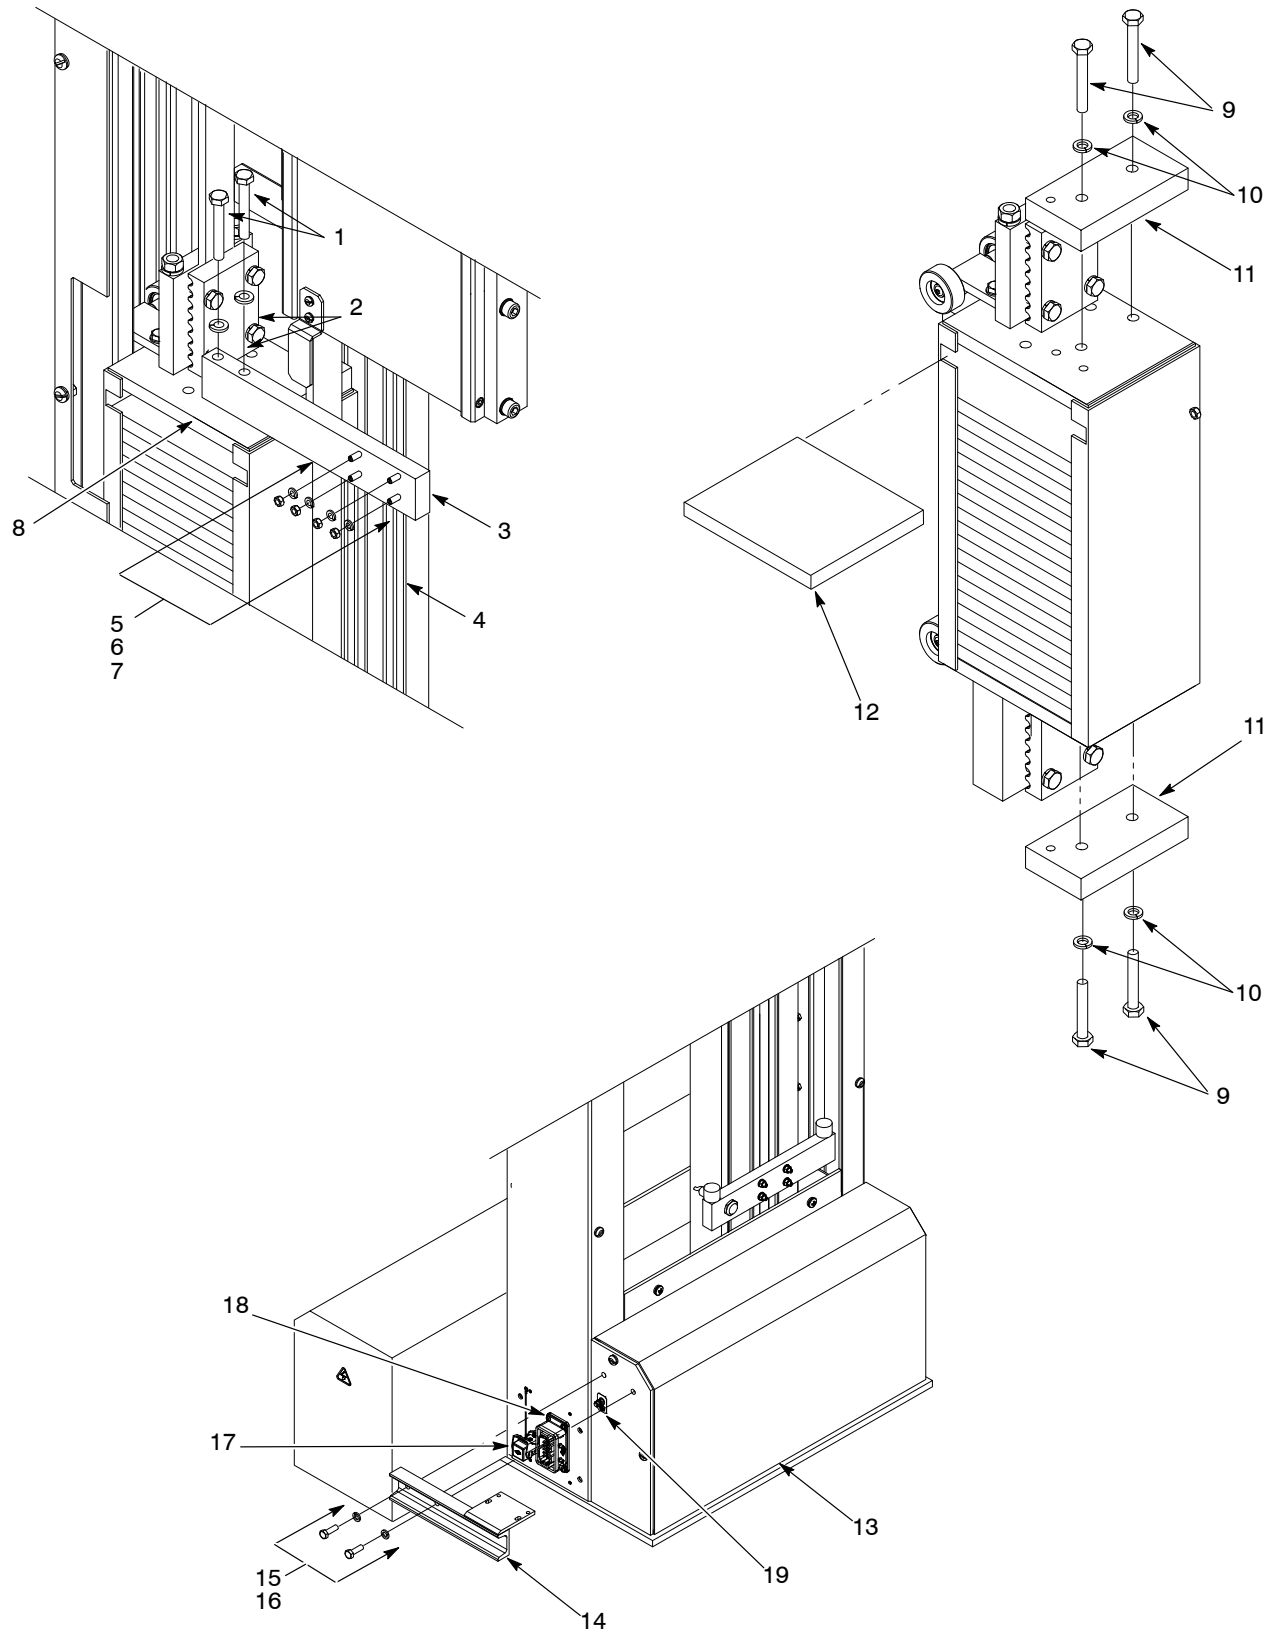

Figure 5 Installing the Ship-With Components
1. See Figure 5. Remove the screws (1) and lock washers (2) securing the carriage weight lock arm (3) to the counterweight basket (8).
2. Remove the nuts (5) and washers (6) from the T-bolts (7). Remove the T-bolts from the gun track (4).
3. Insert the carriage counterweights (12) into the weight basket (8).
4. Install the cable chain bracket (14) to the reciprocator (13) using the screws (15) and washers (16). Tighten the screws securely.
**NOTE:** If the counterweights are not sufficient to balance the guns and the gun bars, two supplemental counterweights (11) included with the reciprocator can be installed onto the counterweight basket (8). The supplemental weights are required when the gun payload is between 76–80 kg (167.5–176.4 lb)
5. If required, install the supplemental weights (11) onto the counterweight basket (8) using the supplied M8 x 40 screws (9) and washers (10). Tighten the screws securely.
4. See Figure 5. Connect the motor-to-controller cable to the motor connector (17) located on the back of the reciprocator.
5. Connect the sensor/encoder-to-controller interface cable to the sensor connector (18) located on the back of the reciprocator.
6. Connect a ground bonding wire from the spray booth chassis to the ground terminal (19). This ground wire may also be connected to the In/Out Positioner base ground terminal.